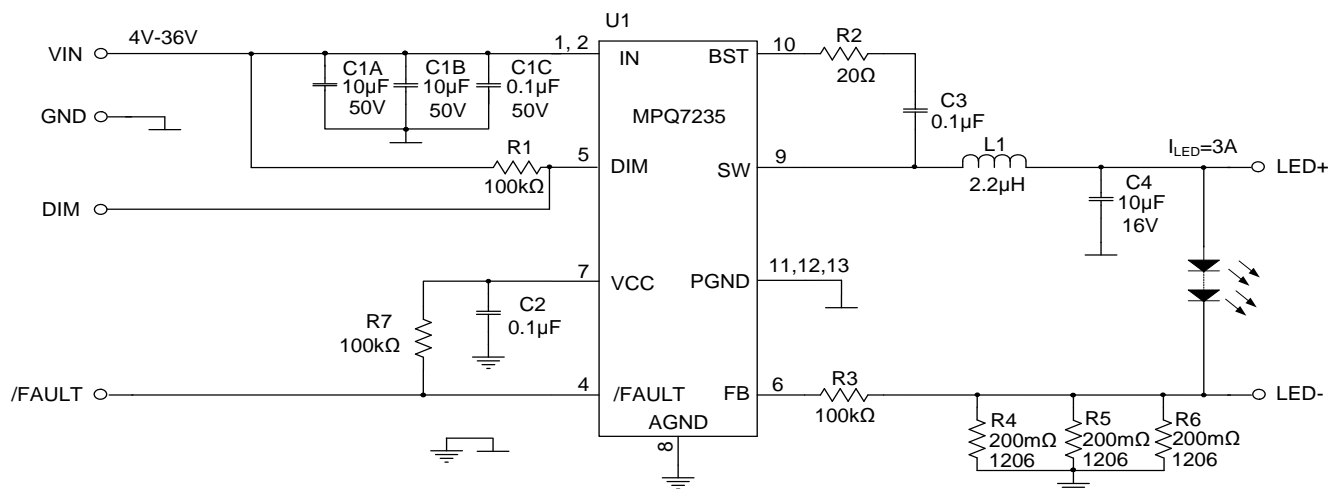

Figure 8: $I_{LED}=3A$ Application Circuit
11) The recommended PCB layout is based on the Typical Application Circuit (see Figure 8).